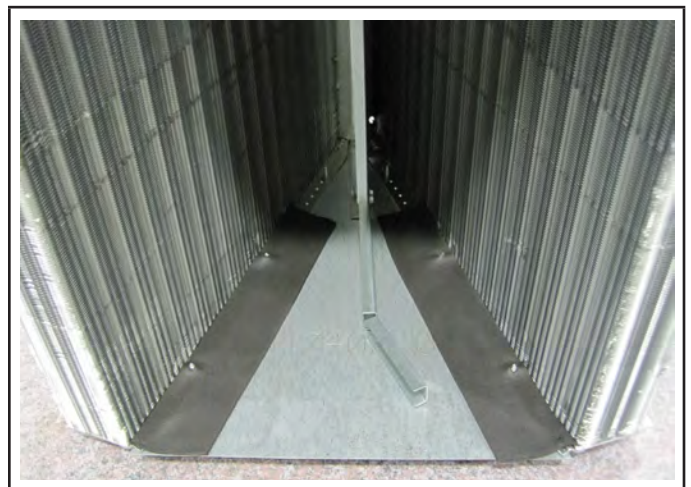

FIGURE 6. Install Delta Plate Foam Tape Insulation
- 3 - Working from the bottom of the coil, install provided insulating foam tape (Part G, two each) to the rear delta plate of the coil (see figure 6).